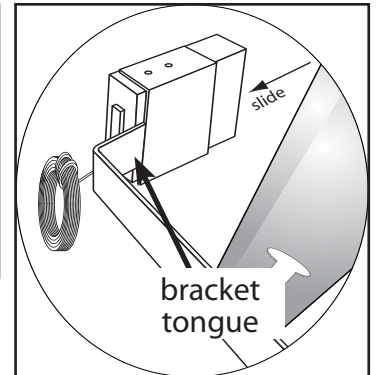

FIG. 4-3 Attach sensors to brackets
- Slide source/sensor onto tongue of bracket until it clicks into place (Fig. 4-3).